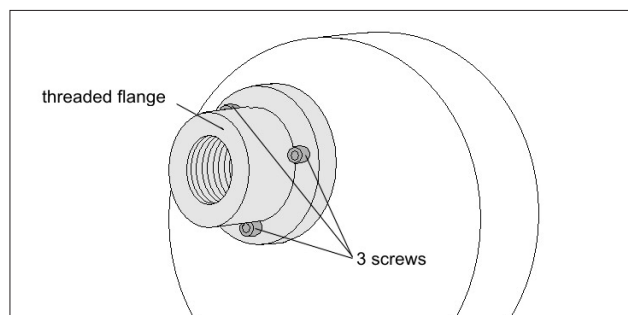

Fig. 15. Replacing focusing lens on C7061F1003
- A Remove the detector from the sight pipe (see Fig. 15).